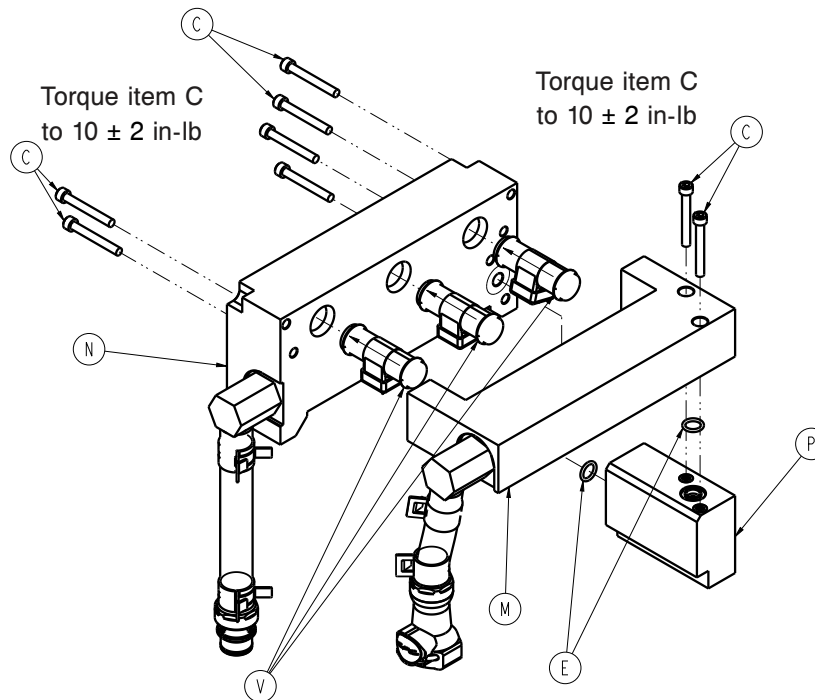

Figure 44 – Manifolds
22. Using a $5/32$ " hex wrench, remove the six screws (c) that secure the return manifold to the bypass and supply manifolds (Figure 44). Save the screws.